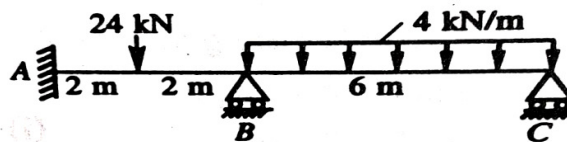

Figure 2.
3. Analyze a continuous beam shown in figure 2, by using Slope deflection method for (i) unyielding supports and (ii) yielding supports which permit a clockwise rotation of  $4/EI$  at  $A$  and downward settlements of  $24/EI$  at  $B$  and  $12/EI$  at  $C$ . The flexural rigidity  $EI$  is constant. [14M]